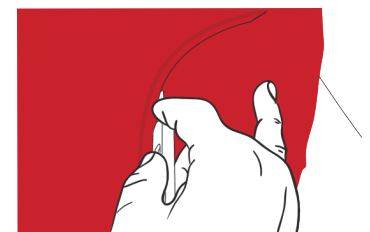

Figure 33
- › For the cut, the cutter blade must be placed against the edge of the adjacent part. When cutting, make sure you always go along the same line as the cut with the blade is inclined towards the outside. (FIG. 33)